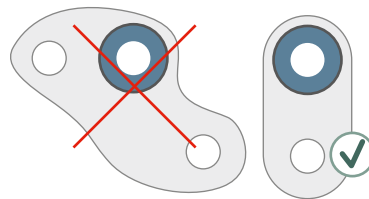

Figure 12
- Excessively large pull tabs will increase the vent price. Gore recommends smaller pull tabs when possible. (Figure 12)
Accurate placement of the vent onto the device is critical to acoustic performance. In order to ensure the vent is aligned properly, alignment features are typically recommended for all vents with an ID of less than 1.5 mm. These features can consist of a pin, a recess, an edge or a corner that aligns with the pull-tab to ensure accurate placement. Figure 12 (page 13) shows a pull tab with a through-hole for an alignment pin.